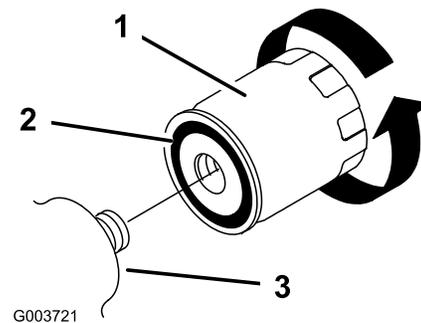

Figure 41
5. Remove the old filter (Figure 41) and wipe the surface of the filter adapter clean.
6. Apply a thin coat hydraulic fluid to the rubber gasket on the replacement filter (Figure 41).
7. Install the replacement hydraulic filter onto the filter adapter (Figure 41). Tighten it clockwise until the rubber gasket contacts the filter adapter, then tighten the filter an additional 1/2 turn.